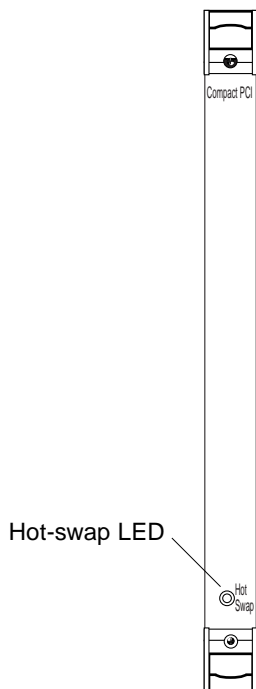

FIGURE 2-11 Location of the Rear-Access Adapter's Hot-Swap LED on the Front Card
10. Locate the hot-swap LED on the front card to determine if the card has been activated and is attached to the system (see FIGURE 2-11).